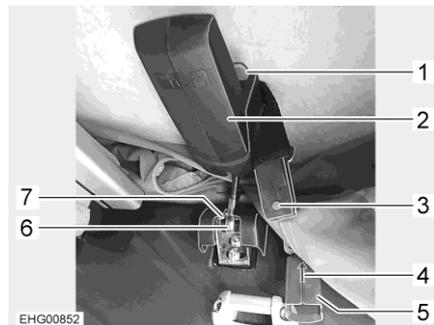

Fig. 27 Locking, elevating roof at the rear (C 530)
- Open the snap lock (Fig. 27,5) on both sides. To do this, press the grey push button (Fig. 27,3) and pull the two parts of the snap lock apart.
- Press the red lever (Fig. 27,1) upwards. This unlocks the black handle (labelled SCA) (Fig. 27,2).
- Pull the black handle (labelled SCA) (Fig. 27,2) downwards.
- Release the pin (Fig. 27,6) from the holder (Fig. 27,7).